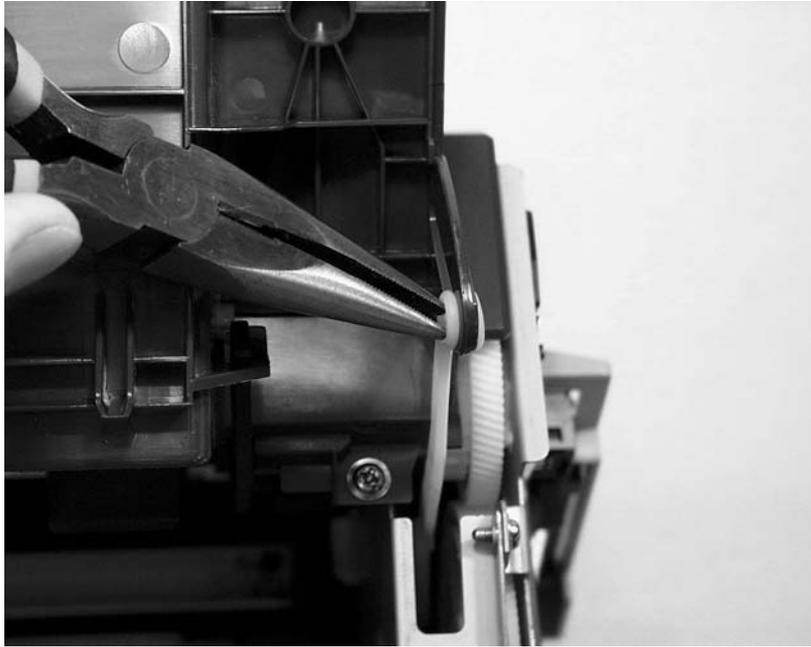

Figure 5-10.
5. Use needle-nosed pliers to release the plastic door link clip from the hinge arm on the print cartridge access door (figure 5-10).